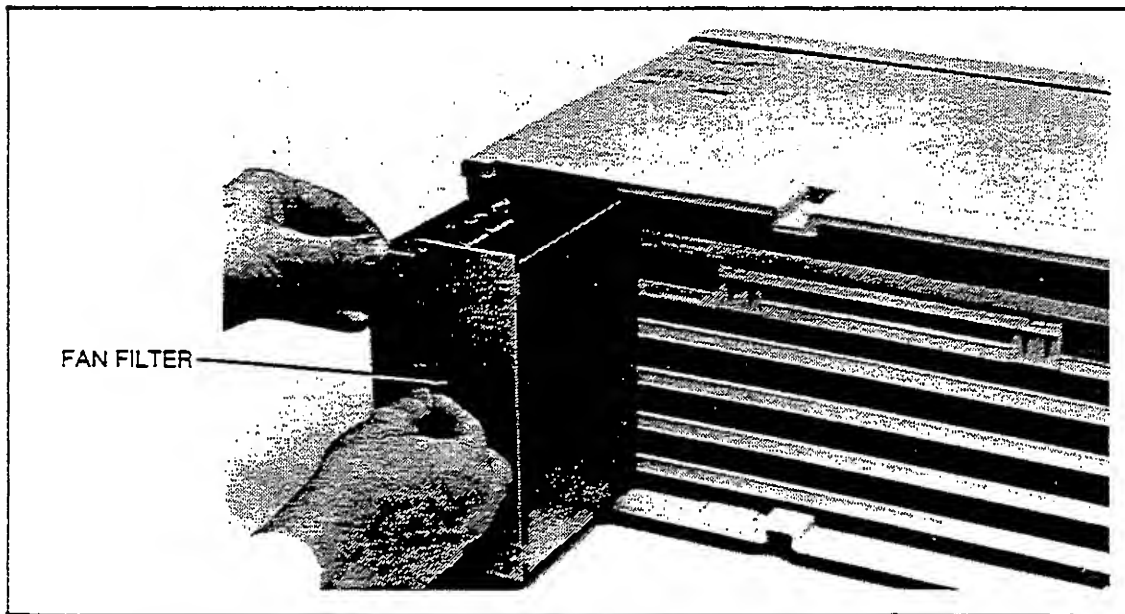

Figure 4-2. Removing the Computer Interface Module
4. Remove the Computer Interface Module from the chassis by grasping the finger indentation in the fan filter hole (as shown in Figure 4-2) and sliding the module straight back and out.
Clean the fan filter (shown in Figure 4-2) any time it is visibly contaminated. If the Front End is operated too long with a dirty air filter, heat buildup inside could damage sensitive electronic components.